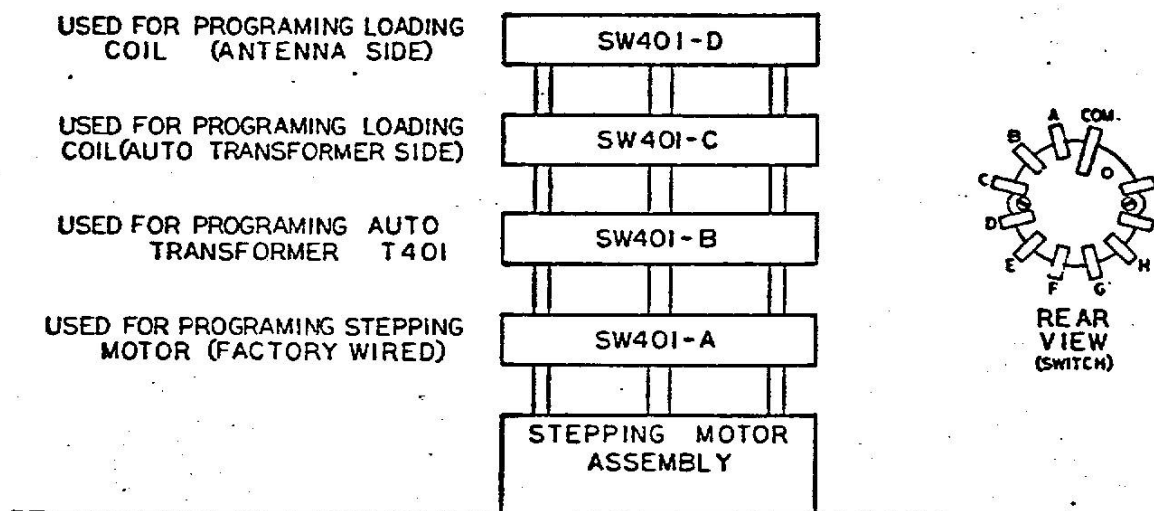

Figure 2-6. Stepping Solenoid Wafers
3. Switch wafer SW401-B selects taps on the impedance-matching autotransformer. Because of the difficulty in reaching this wafer, the jumper wires have been pre-wired to it using the standard resistor-capacitor color code for the channels. I.e. brown is channel A (1), red is channel B (2), orange is channel C (3), etc. Solder one of connectors supplied with ETA/4 on free end of each SW401-B channel wire to be used.
4. Switch wafer SW401-C supplies RF input to the appropriate loading coil. To prepare these jumpers, cut a 6-1/2 inch length of #22 hook-up wire for each channel to be used; solder a connector to one end, and strip 1/4 inch of insulation from the other end. Solder one of these jumpers to each SW401-C terminal to be used, using color code as in step 3. See Figure 2-6 for terminal locations on SW401.
3. Connect wire attached to desired channel terminal on wafer SW401-B to tap point 9 on autotransformer T401. See Figure 2-6 for terminal locations on stepping switch SW401.